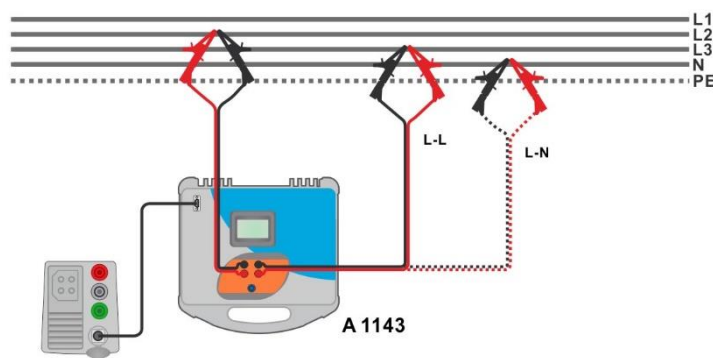

Figure 7.61: Phase-neutral or phase-phase high precision Line impedance measurement – Connection of A 1143
- › Connect test leads to the object under test, see **Figure 7.61**.